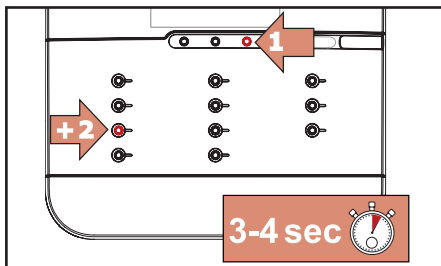

Fig. 5.4 - Enter cleaning mode
1. Press first **STOP** and then and hold them pressed simultaneously for 3-4 seconds to enter the cleaning mode (fig. 5.4).
1. Press first **STOP** and then ↩ and hold them pressed simultaneously for 3-4 seconds to enter the cleaning mode (fig. 5.4).